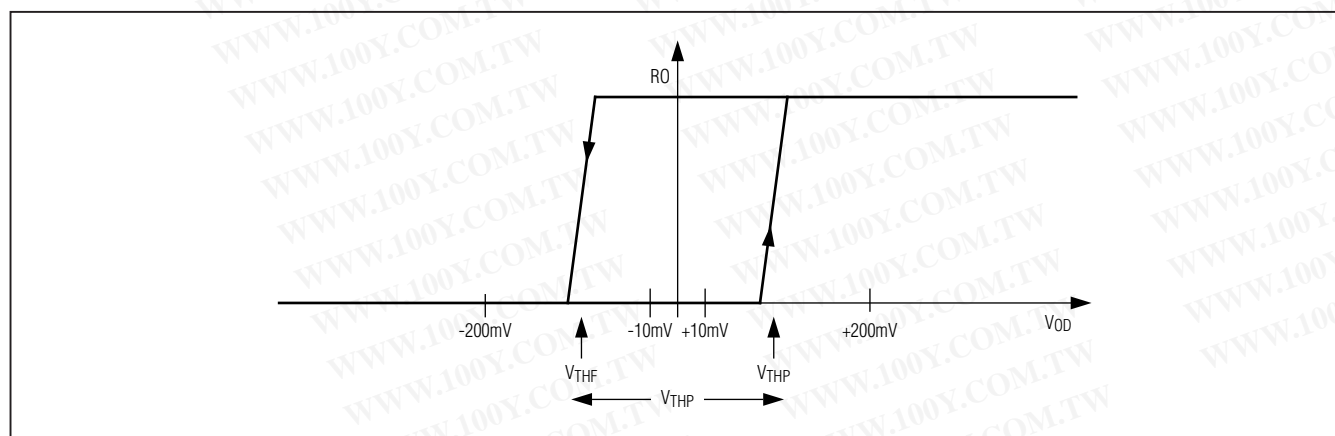

Figure 9. Symmetrical Hysteresis
At high data rates and with long cable lengths, the signal at the end of the cable is attenuated and distorted due to the lowpass characteristic of the transmission line. Under these conditions, fail-safe RS-485 receivers, which have offset threshold voltages, produce recovered signals with uneven mark-space ratios. The MAX14840E has symmetrical receiver thresholds, as shown in Figure 9. This produces near even mark-space ratios at the receiver's output (RO). The MAX14840E also has higher receiver hysteresis than the MAX14841E and most other RS-485 transceivers. This results in higher receiver noise tolerance.